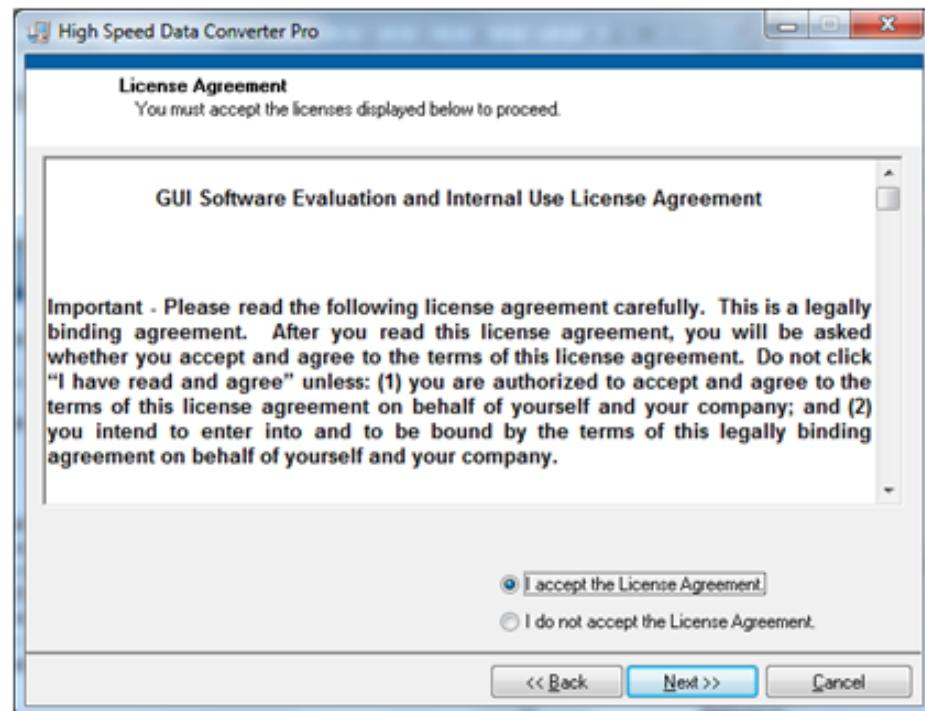

Figure 4. HSDCpro Install (c)
- Read the License Agreement from Texas Instruments and select *I accept the License Agreement* and press the Next button as shown in Figure 4.